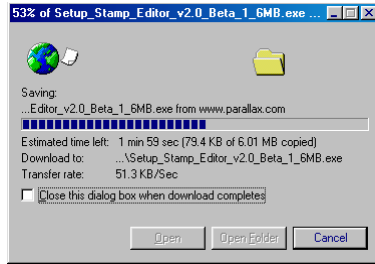

Figure 1-8
- ✓ Wait while the BASIC Stamp Editor installation program downloads (shown in Figure 1-8). This may take a while if you are using a modem connection.